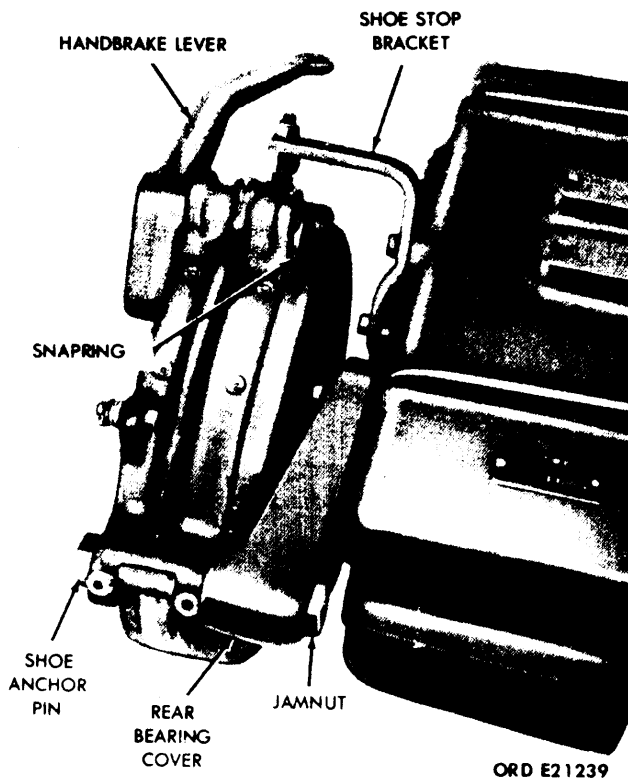

Figure 4-28. Removal of Handbrake Assembly.
a. *Handbrake Drum and Shoe Assembly.* Remove the cotter pin from the rear output shaft and nut. (See fig. 4-27.) Apply the hand brake by hand, and remove the rear output shaft companion flange, nut, and washer. Disconnect and remove the handbrake shoe return spring. Remove the jamnut from the shoe anchor pin. (See fig. 4-28.) Unscrew the anchor pin from the rear-output-shaft rear-bearing cover. Slide the brakeshoe assembly from the brakedrum. Pull the companion flange, brake drum, and grease shield from the rear output shaft. (See fig. 4-27.) Remove the two capscrews and lockwashers securing the shoe-stop bracket (fig. 4-28) to the transfer case and remove the bracket.